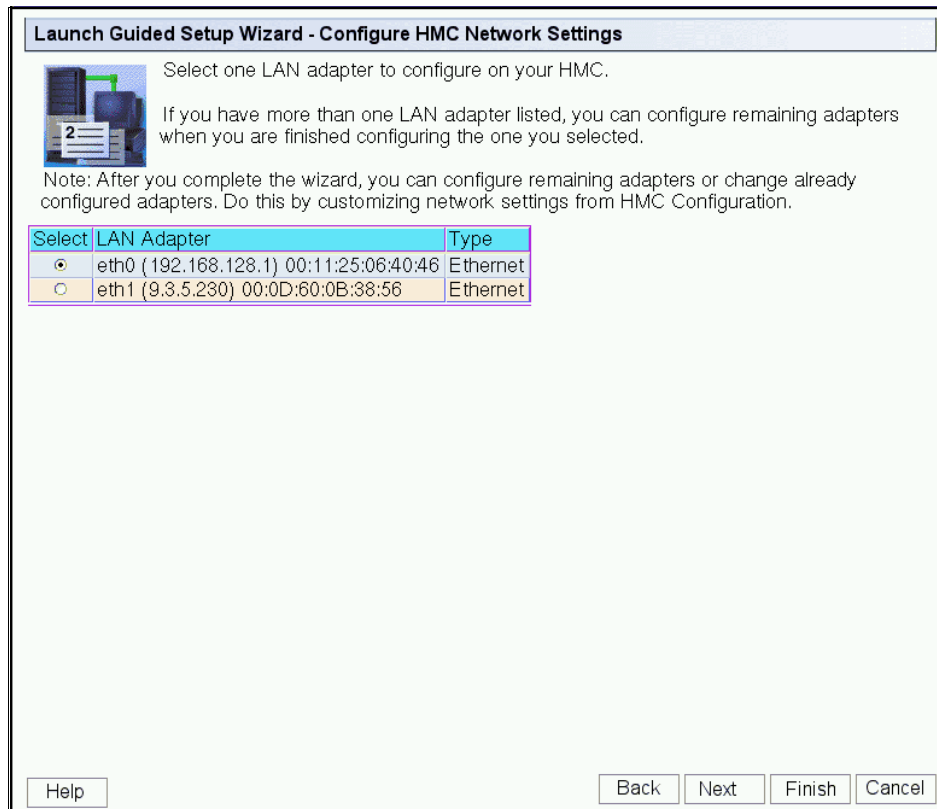

Figure 3-17 Launch Guided Setup Wizard - Configure HMC Network Settings
10. The Launch Guided Setup Wizard - Configure HMC Network Settings panel displays as shown in Figure 3-17. In our example, we see two LAN adapters available (*eth0* and *eth1*), although you might only see one adapter in your HMC system.